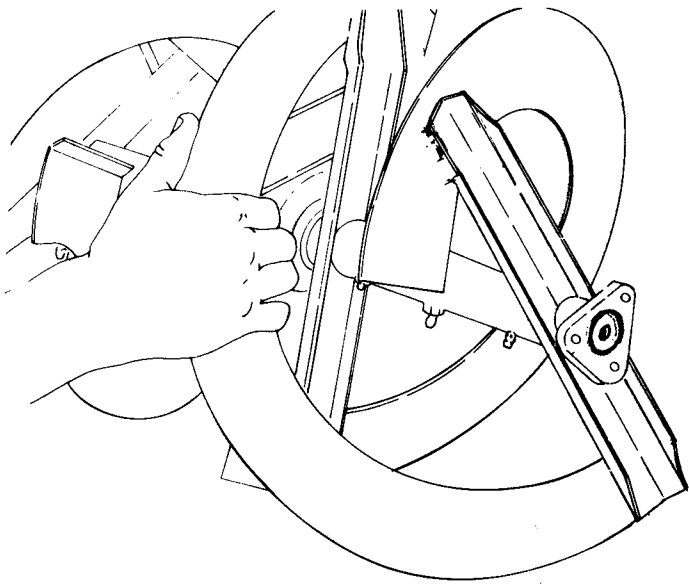

FIGURE 3.13 — PULLING AUGER ASSEMBLY
**STEP 3.** The auger-impeller-gear box assembly can now be removed. Brace your feet against the ends of the collector housing, grasp the augers and pull until the impeller shaft clears the housing bearing. (Figure 3.13).